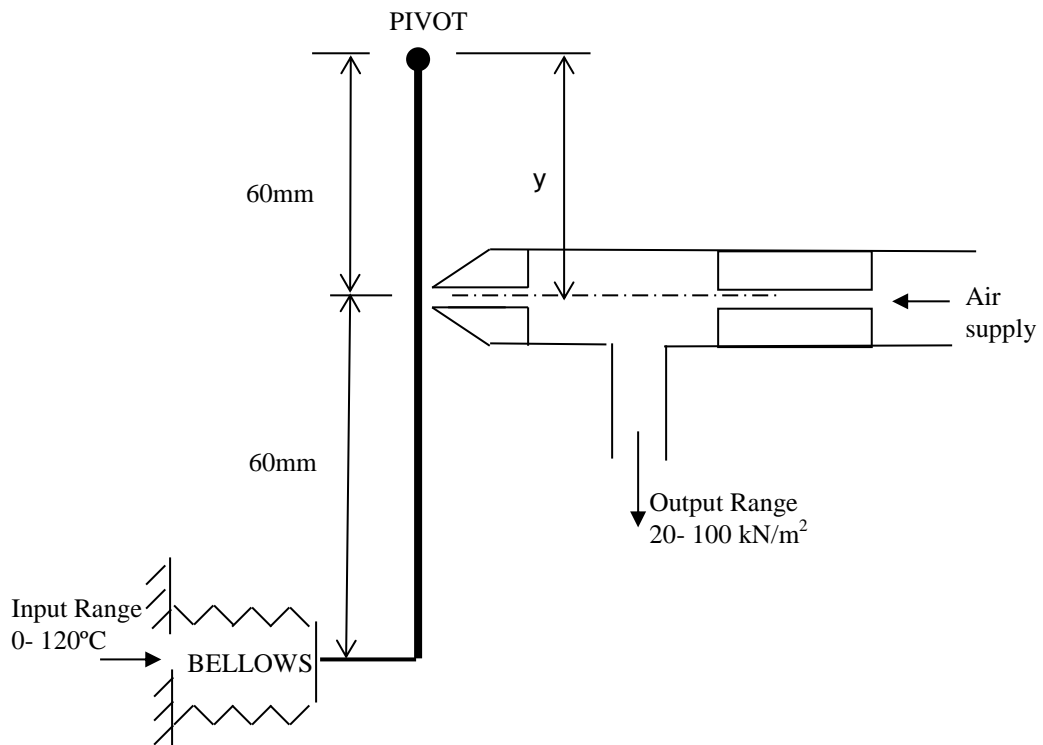

Fig Q3
- (a) the distance of nearest approach between the TWO vessels if they both maintain their present speed and course; (8)
- (b) the absolute course and speed of the second vessel. (8)
- (a) Sketch the arrangement showing all forces and torques present. (4)
- (b) Calculate the driving power required at the drum at this instant. (12)
3. A basic flapper/nozzle device is shown in Fig Q3 (not drawn to scale). The pneumatic signal for the input bellows unit is proportional to the measured temperature within the range 0-120°C. The output signal range is to be 20-100 kN/m².